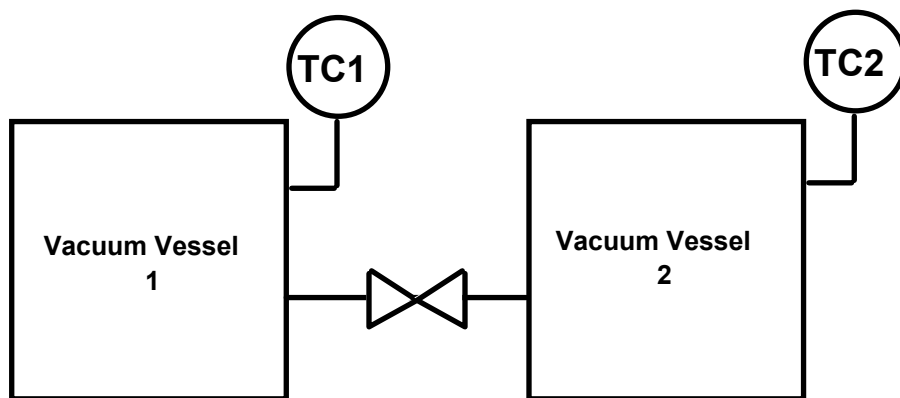

Figure 3.1
3.4 What would be the volume of vessel 2 in figure 3.1 if the final pressure read on TC1 and TC2 was 350 Torr rather than 500 Torr?